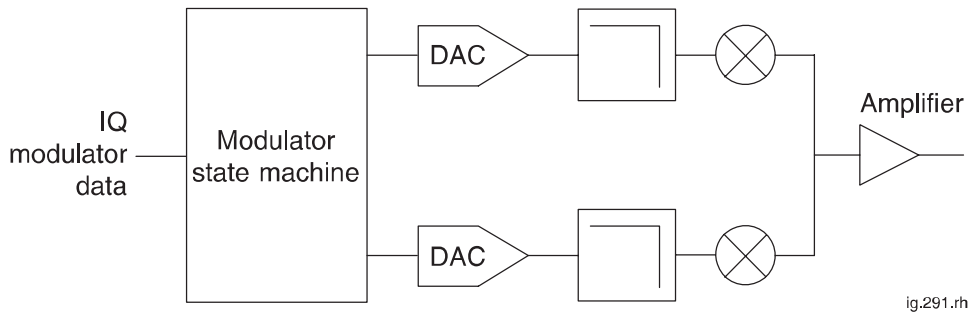

Figure 5-6 IQ modulator functional diagram
Figure 5-6 shows a functional diagram of the IQ modulator. IQ modulator data for eight timeslot channels is applied to the modulator state machine. This data is encoded, serial-to-parallel converted and split into quadrature components. The quadrature components are D/A converted and applied to a quadrature modulator to create a Gaussian minimum shift keyed (GMSK) carrier at an intermediate frequency (IF).